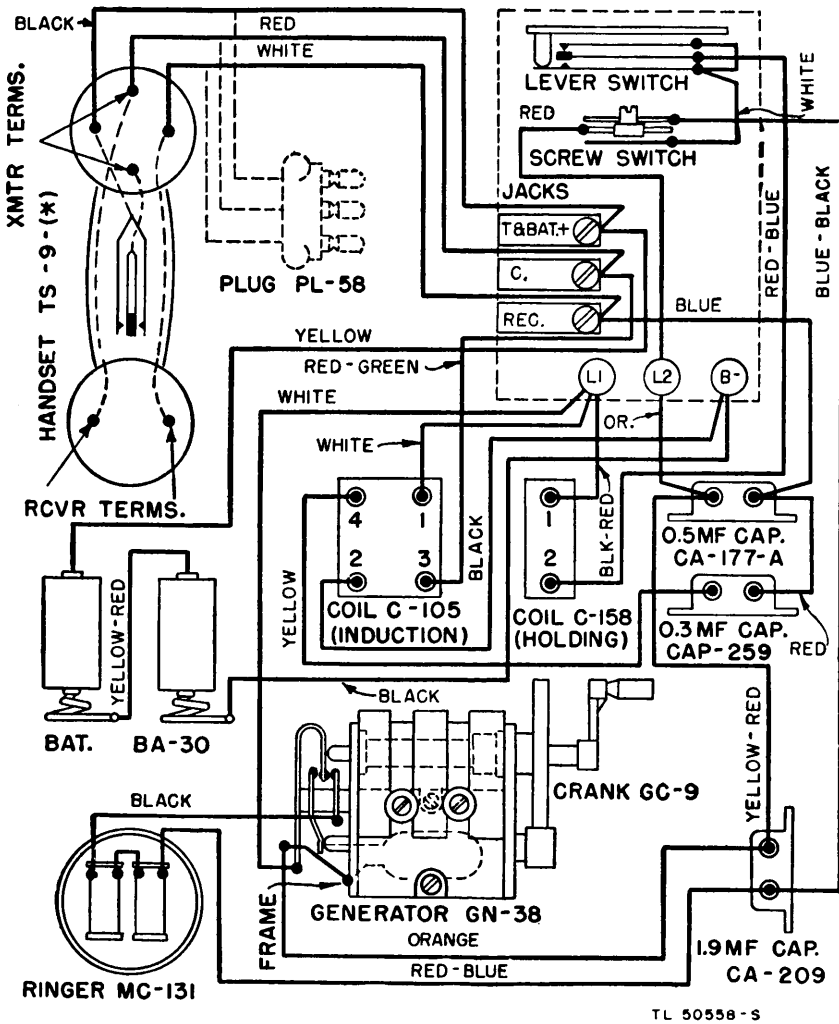

Figure 27. Telephone EE-8—wiring diagram.
- (1) Trouble-shooting chart (par. 48).
- (2) Wiring diagrams of Telephone EE-8-(*) (figs. 27, 28, and 29).